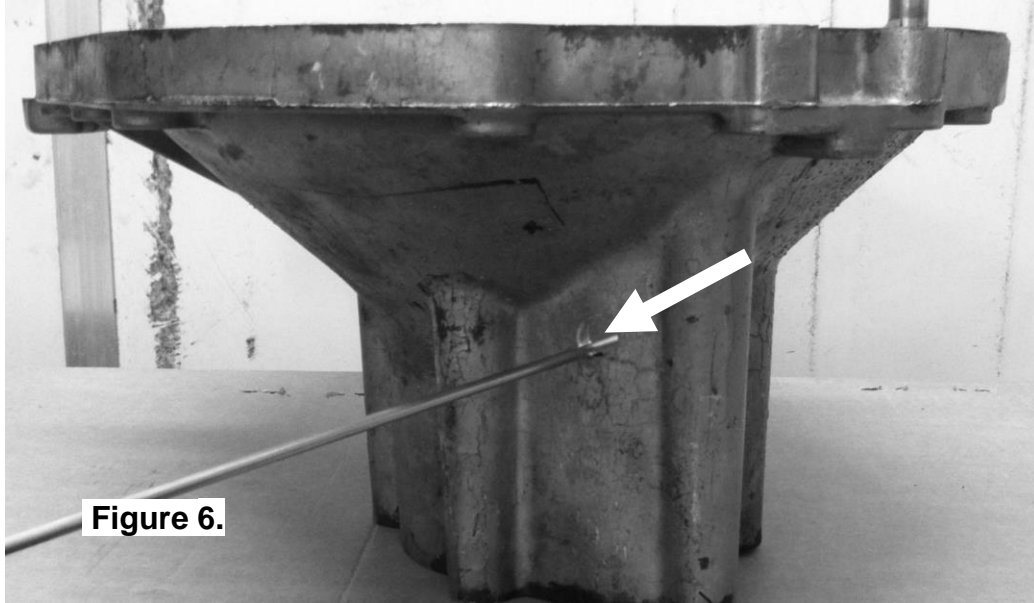

Figure 6.
- Drill through the housing square to the outside surface using a 11.2mm [7/16"] drill in the position shown in Figure 6.
- Assemble the seal housing retaining bracket onto the short spigot of the seal housing, so that it will be held captive between the flange cap and seal housing (as shown in Fig. 6).